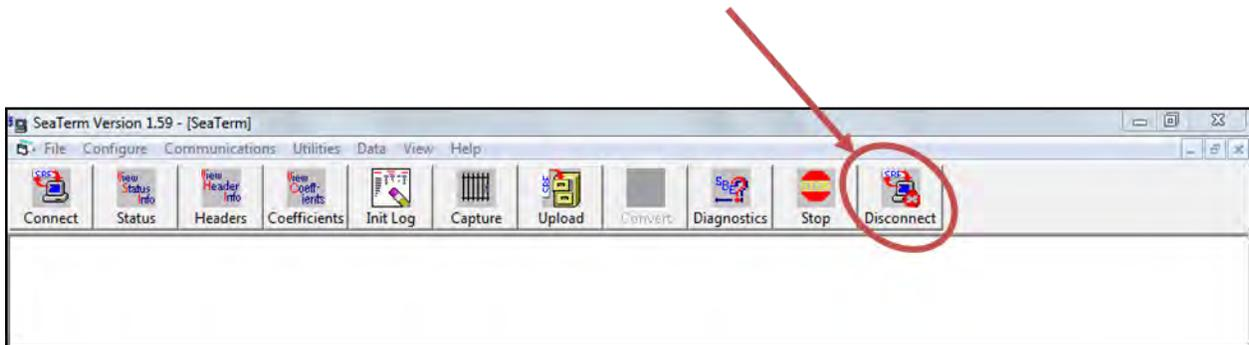

Figure 25. Image of SeaTerm software with Disconnect button highlighted.
8. Click on the **Disconnect** button to close the laptop port that the communication cable is plugged into (Figure 25).